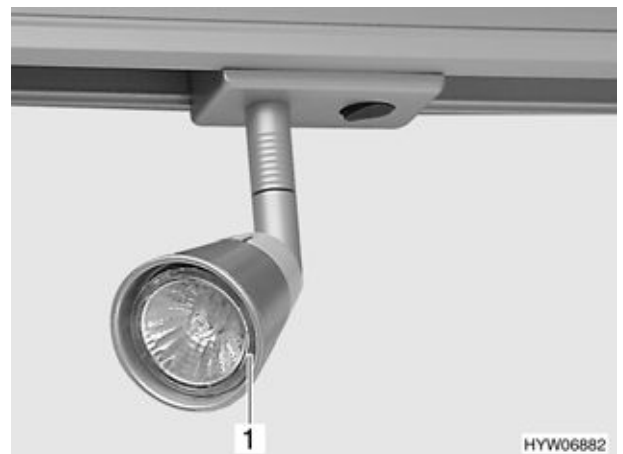

Fig. 180 Spotlight (variant 2)
- Grip the edge of the spotlight glass (Fig. 180,1) and pull forward.